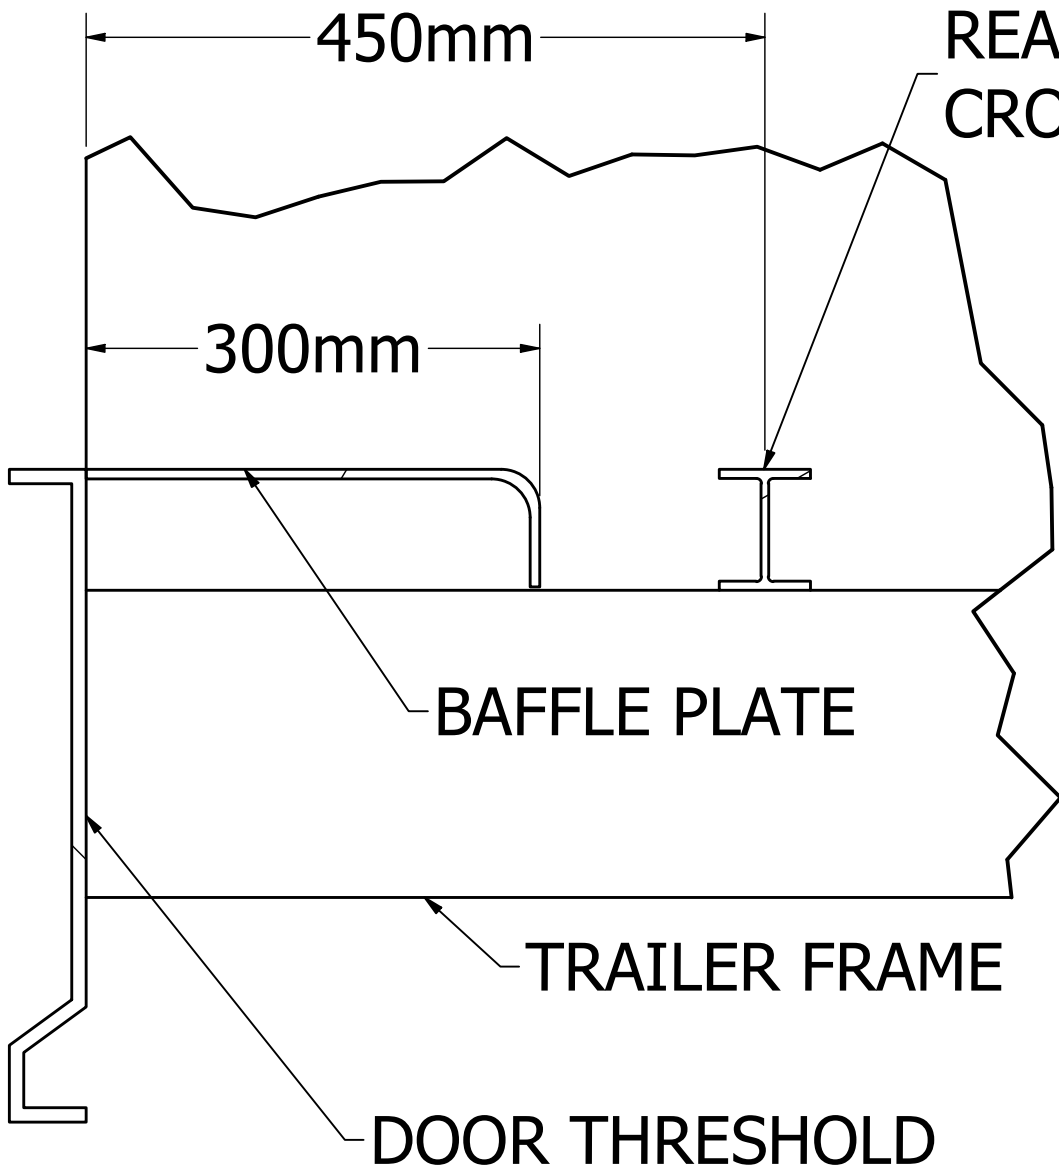

FIGURE 4: BAFFLE PLATE FOR STAINLESS STEEL WEARSTRIP
- 1. DETERMINE THE DIMENSIONS OF THE BAFFLE PLATE (FIGURES 4 & 5). THE THICKNESS DEPENDS ON THE TYPE OF LOAD. FOR LIGHT MATERIALS (E.G. SAWDUST), USE 5mm PLATE. 6mm PLATE IS RECOMMENDED FOR HEAVY, ABRASIVE MATERIALS (E.G. SOLID WASTE). THE PLATE BENDS DOWN 300MM INSIDE THE CLOSED DOOR, LEAVING AN OPENING SO THAT MATERIAL WILL NOT BUILD UP UNDERNEATH THE SLATS. BAFFLE PLATE HEIGHT WILL VARY DEPENDING ON WHETHER THE 6mm PLASTIC WEAR STRIP OR THE 3mm STAINLESS STEEL STRIP IS TO BE INSTALLED ON TOP OF THE BAFFLE PLATE. IF USING THE 6mm PLASTIC STRIP, THE TOP OF THE BAFFLE PLATE MUST BE 3mm BELOW THE TOP OF THE CROSS-MEMBERS. IF USING THE STAINLESS STEEL WEARSTRIP, THE BAFFLE PLATE MUST BE LEVEL WITH THE TOPS OF THE CROSS-MEMBERS.